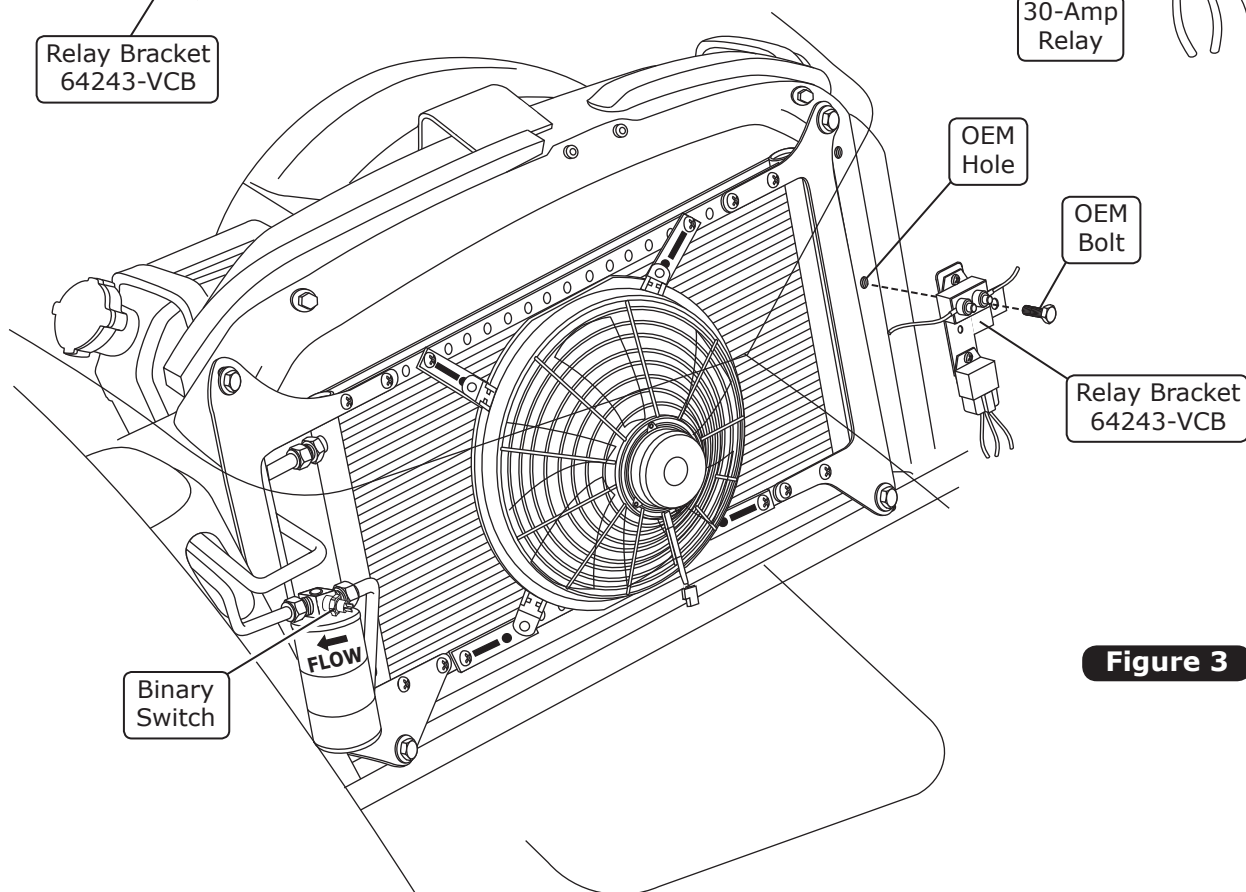

Figure 3
3. Remove an OEM bolt from the core support, and install the relay bracket onto the core support as shown in Figure 3, below.
2. Remove the binary switch from the drier (discard) (See Figure 3, Page 6).